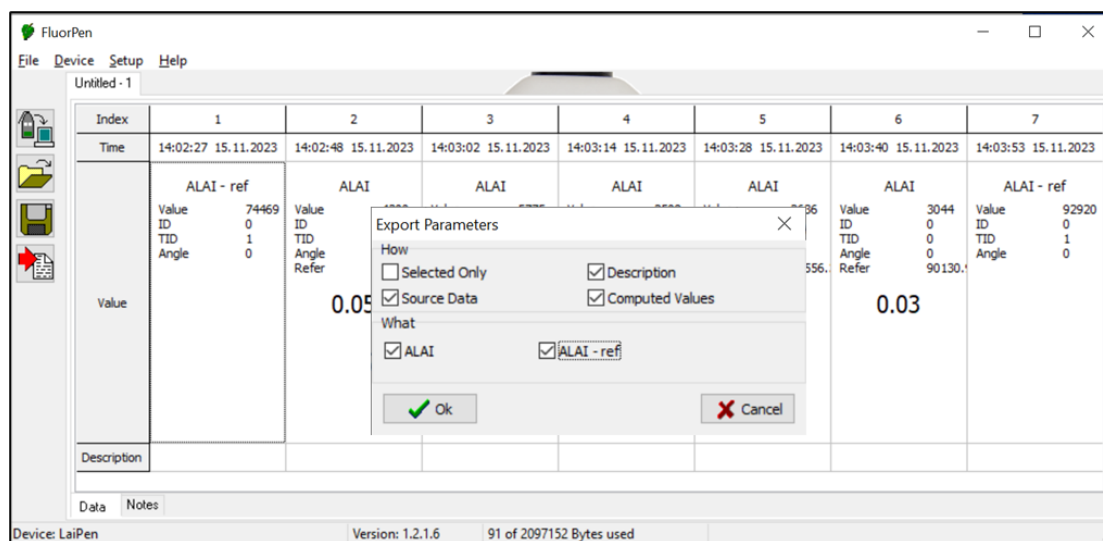
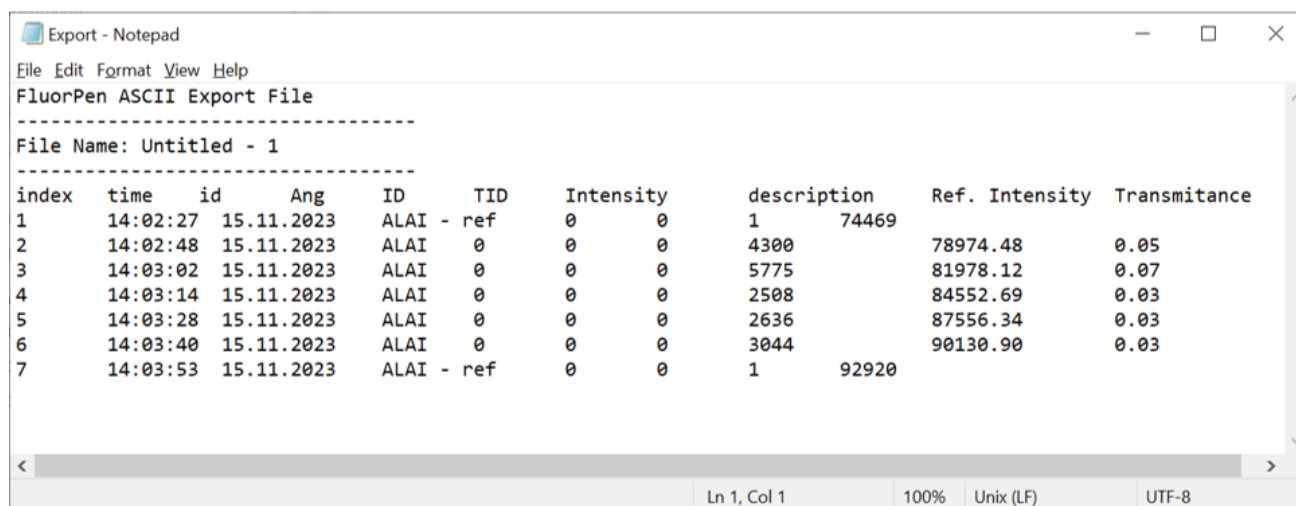

Fig. 27 Export Parameters window
Fig. 28 Export – txt file
Export parameters window opens (Fig. 27). In the window flag the following checkboxes to select what data should be exported.
2. Confirm with OK button (Fig. 27) and Export file opens (Fig. 28)